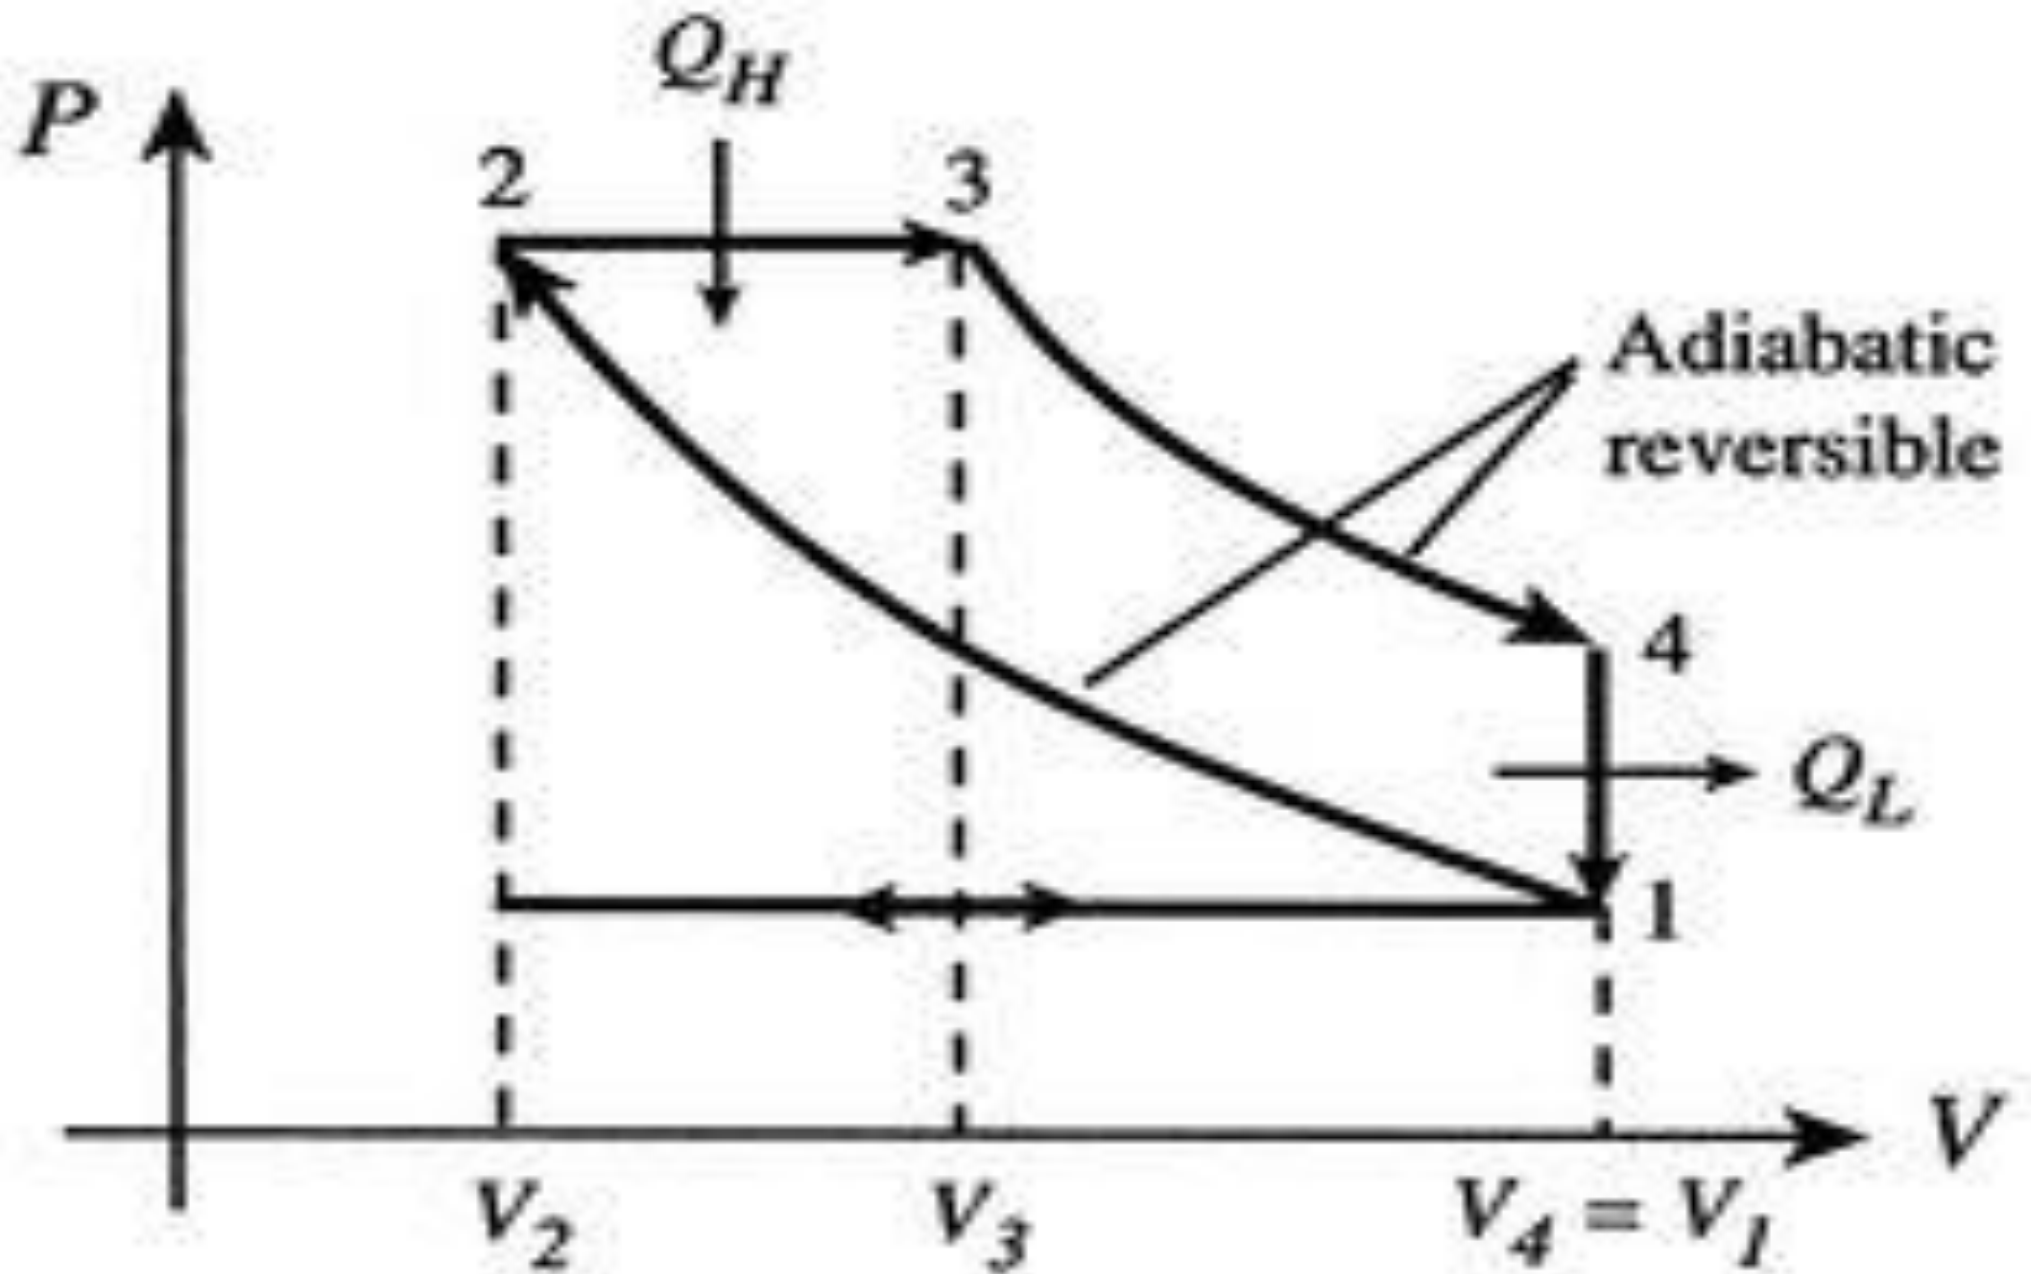

Figure8: Ideal diesel cycle P-V Diagram.
- The ideal diesel cycle PV diagram is shown in following figure 8.